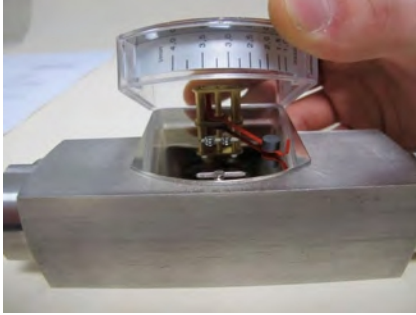

Fig. 37
2. ➤ Carefully remove the display housing cover plate and plastic housing from the display base plate by lifting straight up (Fig. 37) Take care not to damage the pointer mechanism.